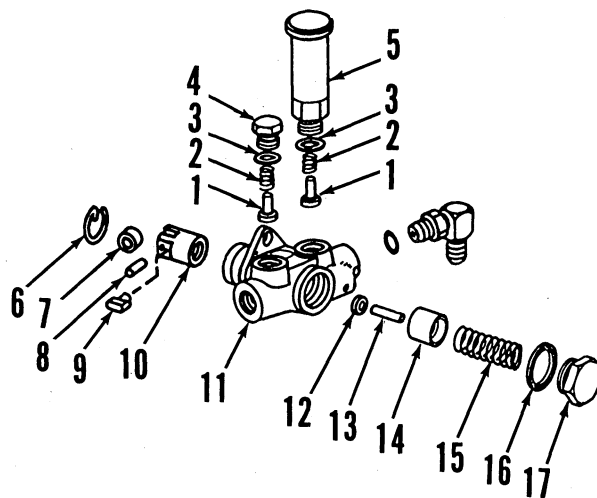

Fig. 73—Exploded view of Nippondenso fuel transfer pump used on some models. Tractors may also be equipped with a Robert Bosch pump which is similar.
If fuel transfer pump fails to operate properly, refer to Fig. 73 and remove plug (4) and hand primer (5) from top of pump housing. Inspect check valves (1) and valve seats for foreign material or damage. If check valves appear normal, pump must be removed for repair or renewal.